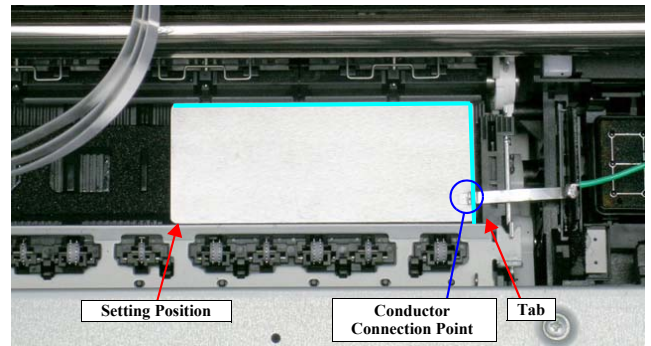

Figure 5-10. Setting the Adjustment Gauge
- Right direction: Release the right end of the Gauge from the Tab on the Front Paper Guide in Figure 5-10.